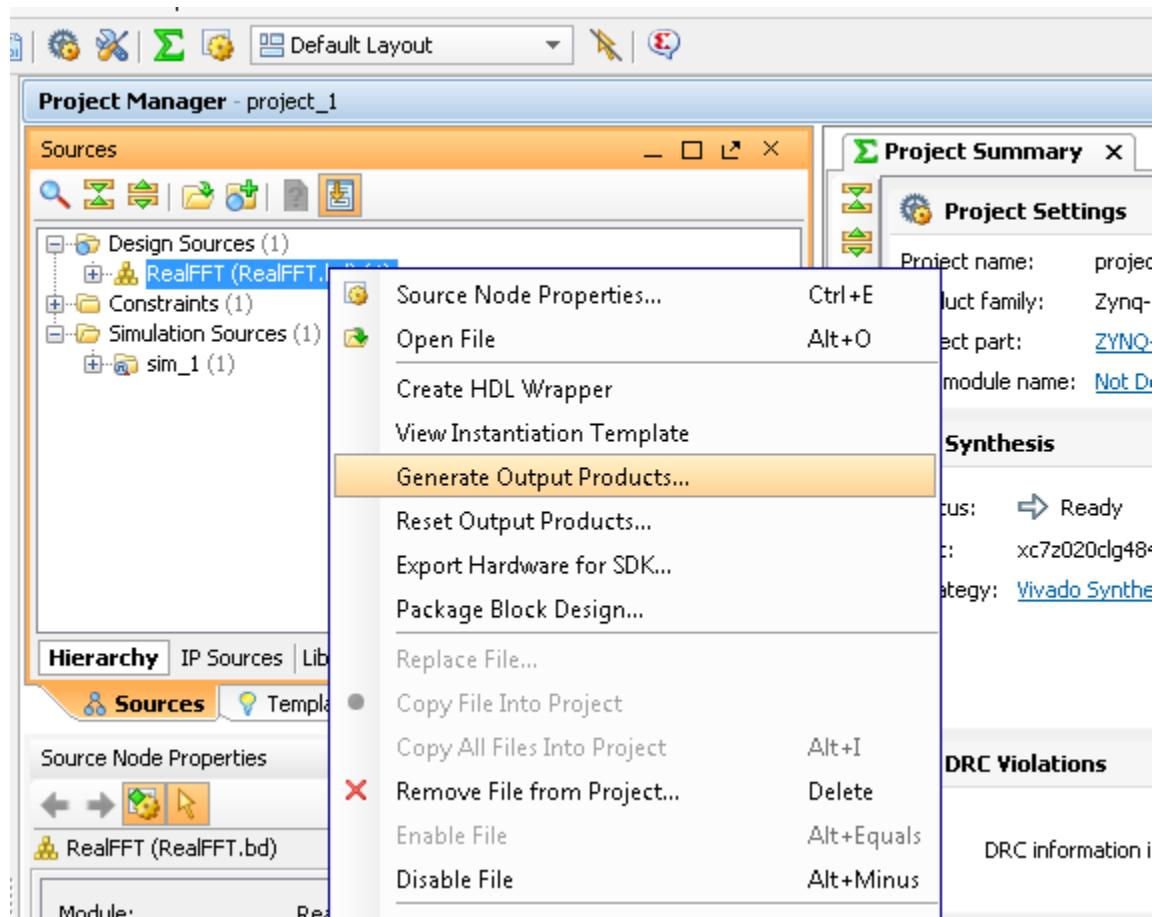

Figure 212 Generating Output Products
- a. In the Sources tab of Project Manager pane (Figure 212), right-click on RealFFT.bd and select Generate Output Products.